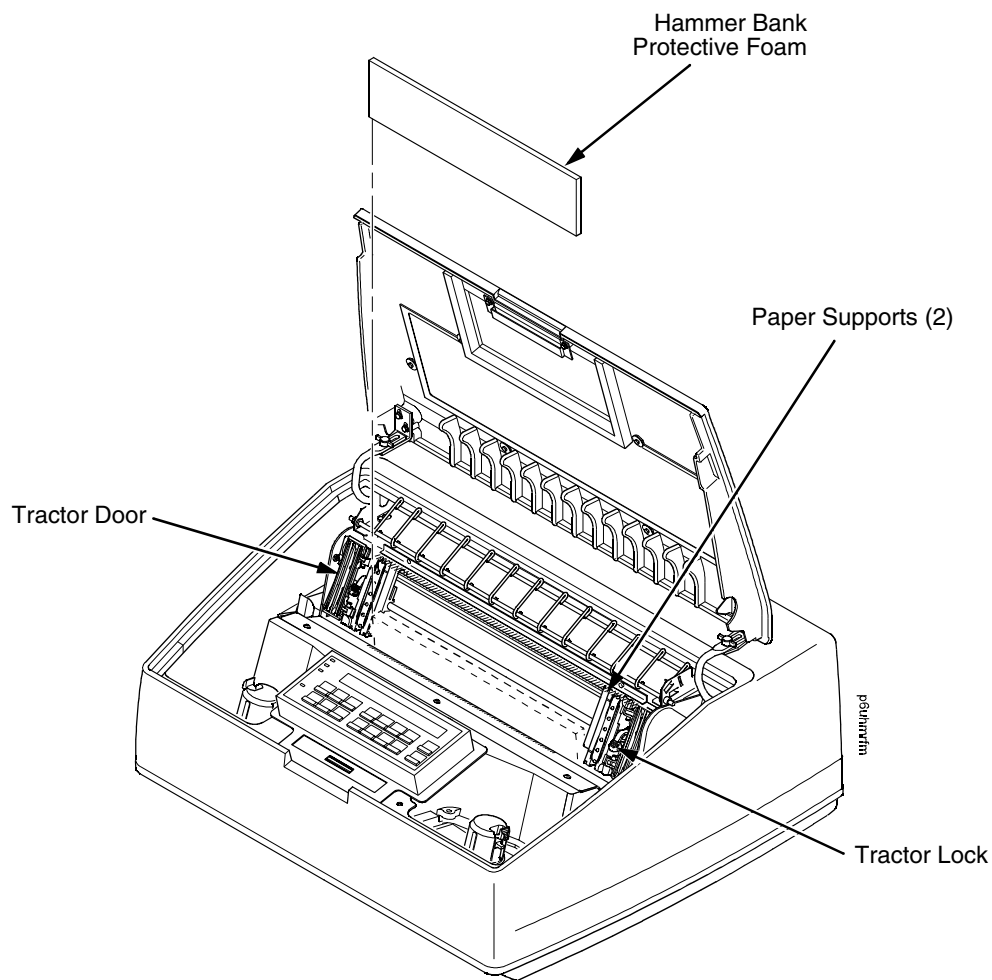

Figure 15. Removing the Hammer Bank Protective Foam
3. Open the tractor doors. Push the tractor locks down. Slide the tractors outward as far as they will go. See Figure 15. The forms thickness lever should be raised (in the fully open position).